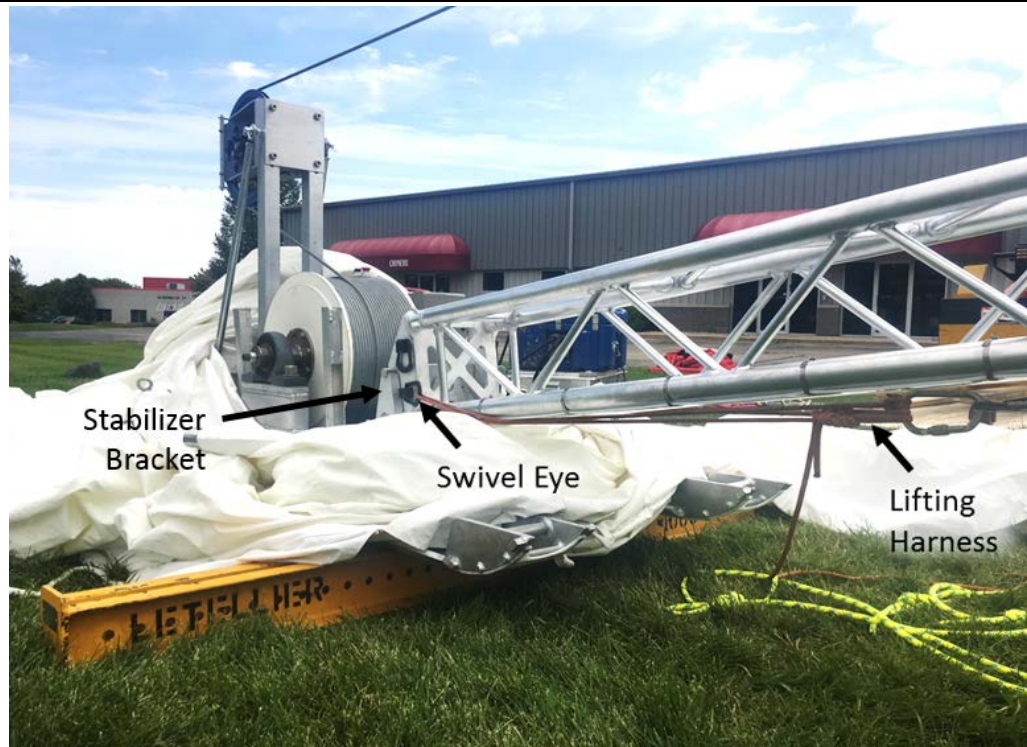

Figure 9: Tent Staging.
10.1.1 Stage tent around base (Figure 9).
- 10.1.4 Install two temporary, triangular Stabilizer Brackets at tower base (Figure 9).